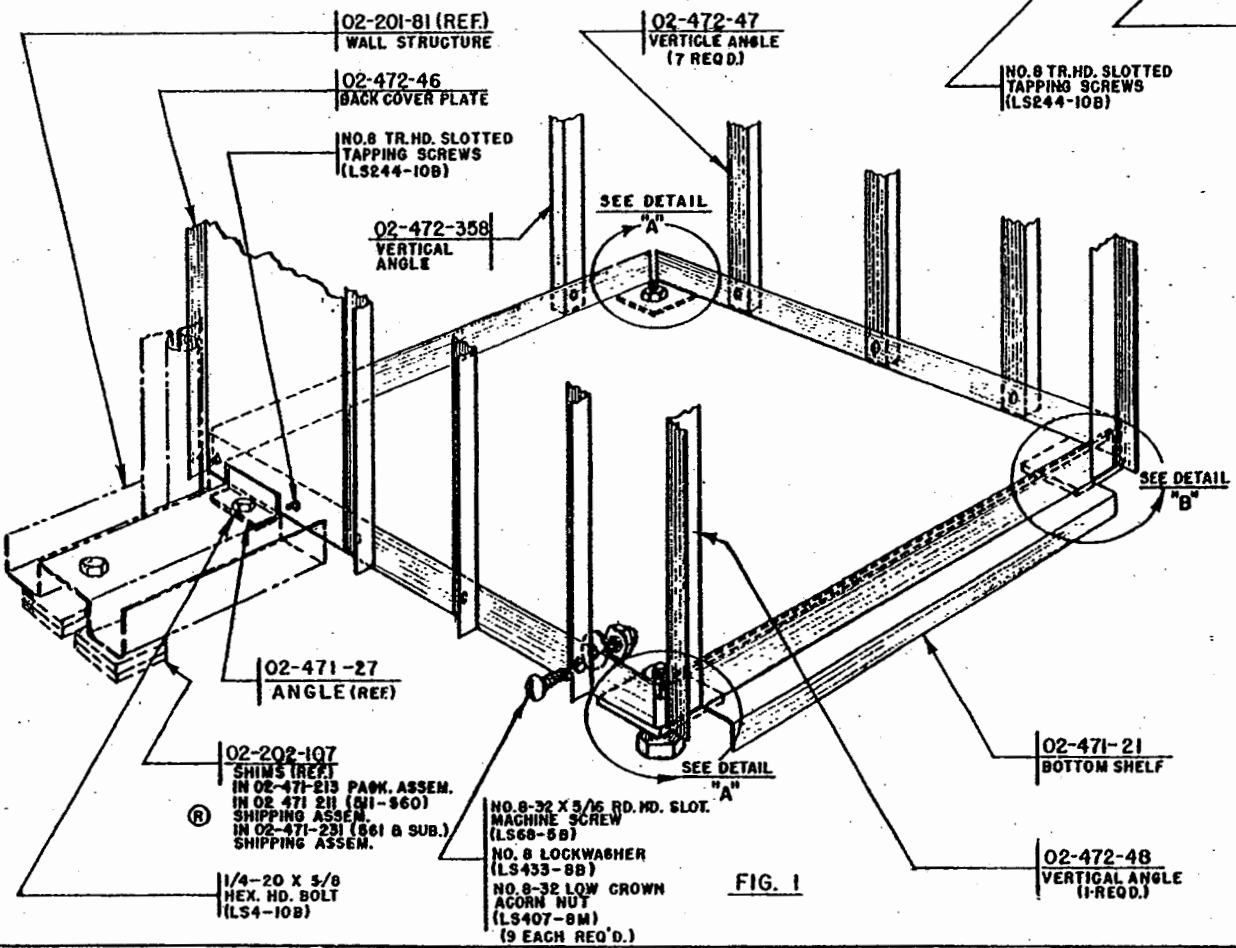

FIG. 1
**STEP 1:** ATTACH BACK COVER PLATE 02-472-46 TO BOTTOM SHELF 02-471-21 USING (2) LS244-10B NO. 8 TR. HD. SLOTTED TAPPING SCREWS. BOLT BOTTOM SHELF TO 02-201-81 WALL SECTION USING LS4-10B HEX HEAD BOLT. SEE FIG. 1.
**STEP 3:** ATTACH (6) 02-472-47 VERTICAL ANGLES, (3) ON RIGHT SIDE OF CABINET & (3) ON LEFT SIDE OF CABINET, LINKING TOP & BOTTOM SHELVES. USE LS68-5B MACHINE SCREWS AND LS407-8M LOW CROWN ACORN NUTS AND LS433-8B WASHERS. SEE FIGS. 1 AND 2.
**STEP 5:** INSTALL (2) VERTICAL ANGLES 02-472-358 & 02-472-47, ONE AT REAR OF CABINET AND ONE AT RIGHT FRONT CORNER, AS SHOWN. INSTALL 02-472-48 VERTICAL ANGLE AT FRONT LEFT CORNER OF CABINET. USE LS68-5B MACHINE SCREWS AND LS433 8B LOCKWASHERS AND LS407 8M LOW CROWN ACORN NUTS. FIG. 1.